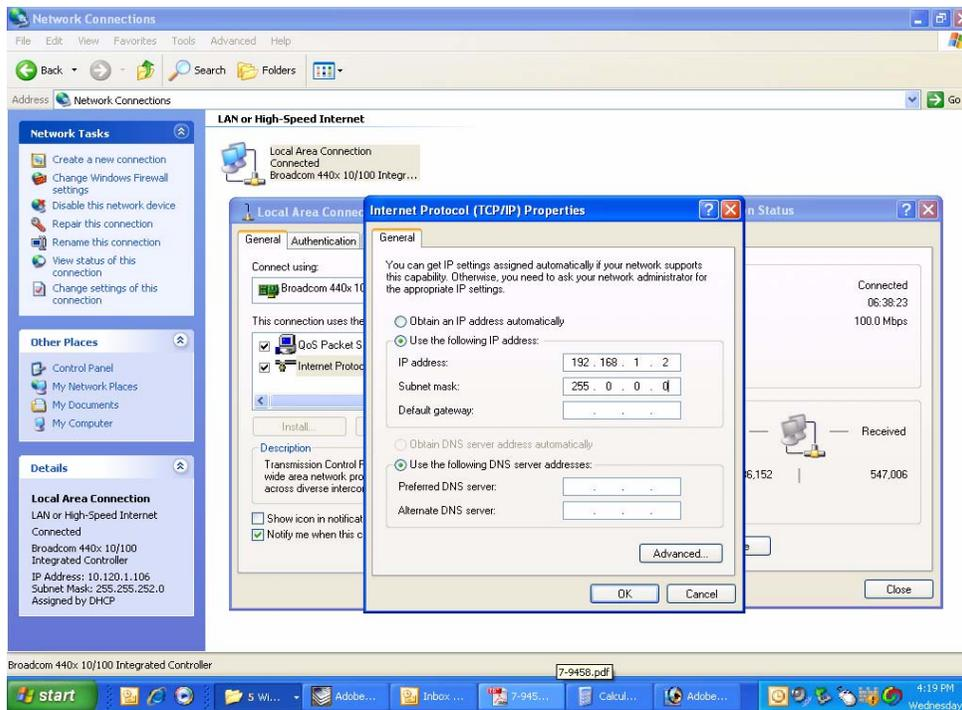

Figure B7: Enter the new IP Address and Subnet mask Values.
- 8) Enter the new IP address and subnet mask values as shown in **Figure B7**. To interface your computer to the signal booster use an IP address of “192.168.1.2” and a subnet mask of “255.255.255.0”.